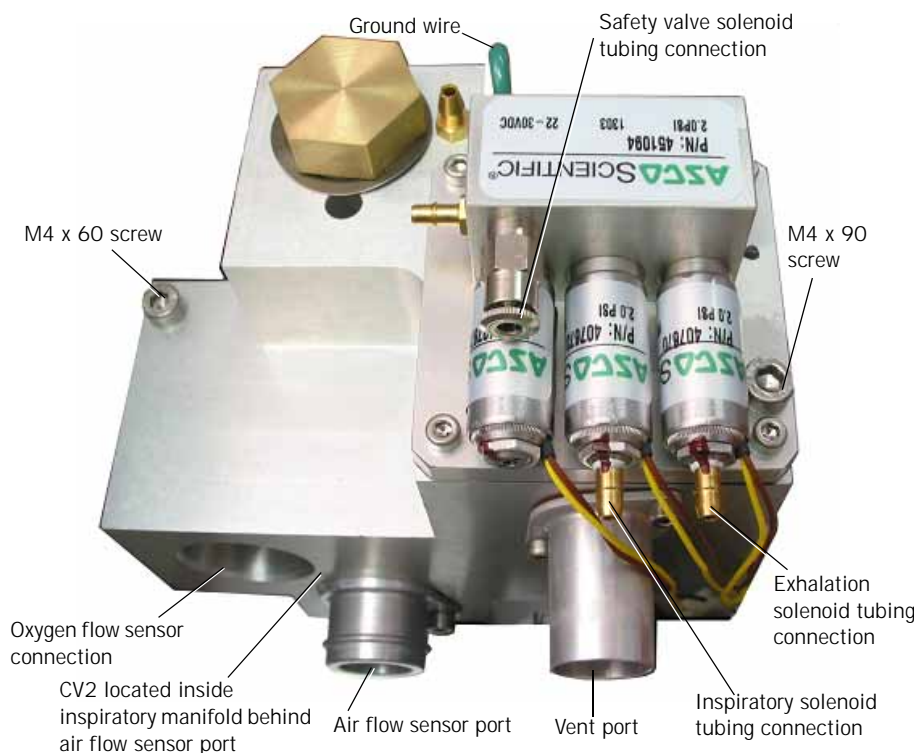

Figure 10-46: Inspiratory Manifold Assembly
Follow these steps to remove the inspiratory manifold assembly (Figure 10-46).
9. Reconnect the SV, inspiratory, and exhalation tubes to the solenoids (Figure 10-46).
10. Reconnect all remaining tubes to the inspiratory manifold (Figure 10-46).